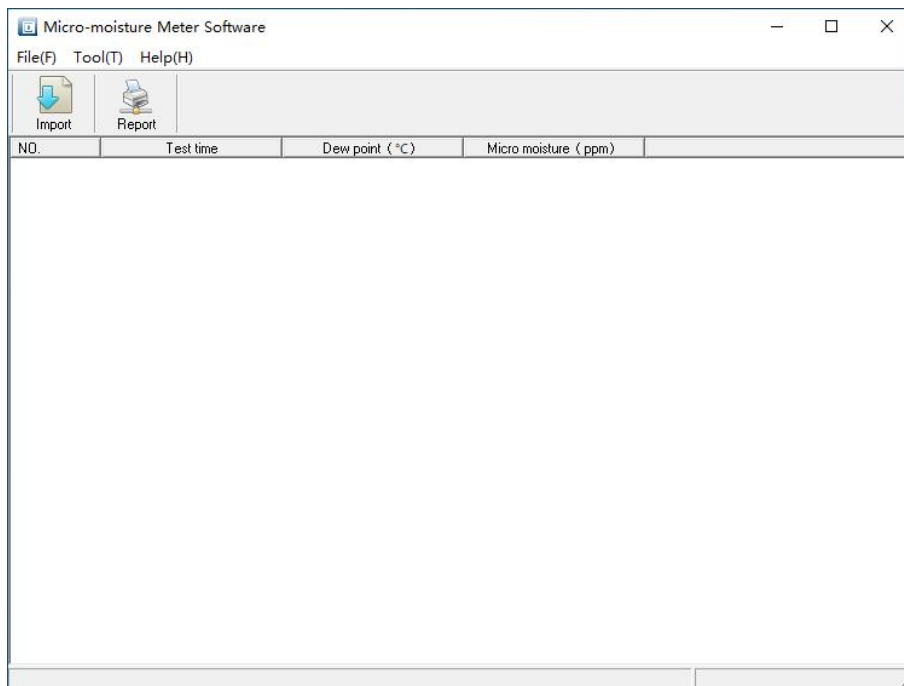

Figure 14 Operation diagram of the host computer
(1) Insert the U disk that has exported data from the instrument into the computer USB port, and then double-click to open the running program with the Chinese name "WSTEST" in the U disk directory, as shown in Figure 14 after running shown.